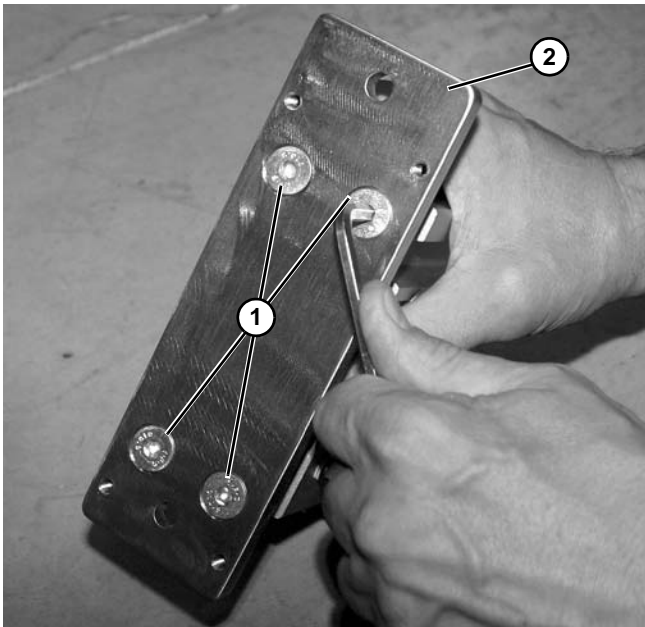

Figure 117
15. Remove four screws (Figure 117, item 1) securing mounting plate (Figure 117, item 2) onto cylinder.